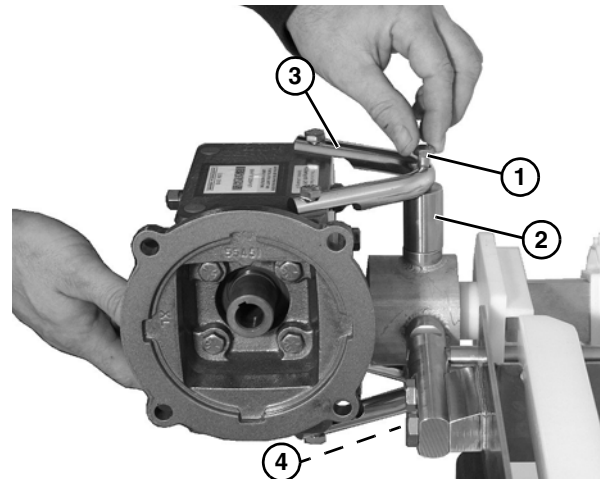

Figure 56
4. Remove top bolt (**Figure 56, item 1**) and spacer (**Figure 56, item 2**) holding the bracket (**Figure 56, item 3**) to the drive assembly.
5. Remove bottom bolt (**Figure 56, item 4**).